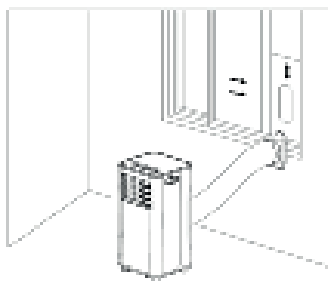
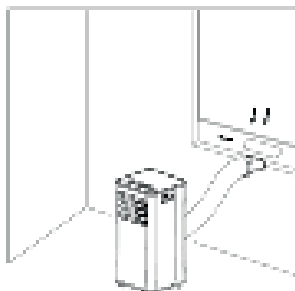

Fig. 3
Fig. 4
2) Elongate the exhaust pipe and snap the flat end of the exhaust pipe joints into the hole of the window sealing plate assembly (as shown in Fig.3 and Fig.4) .